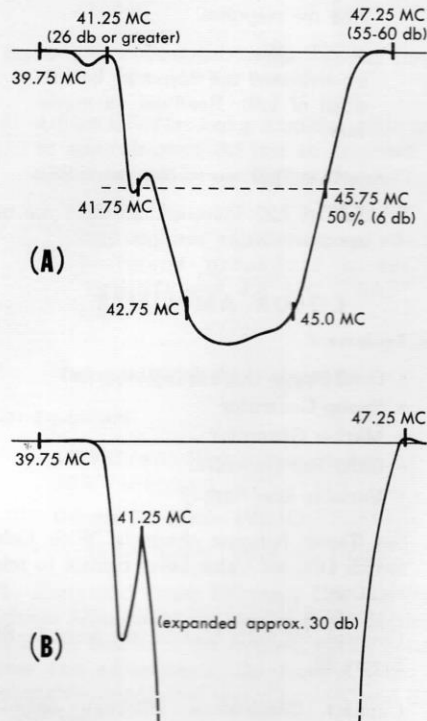

Figure 14—Overall Response Curve, Taken at Test Point C2.
- (c) Set Marker Generator accordingly and adjust L5, L6 and L4, the 47.25 mc, 41.25 mc (heavy wire) and 39.75 mc trap (on apron of chassis) respectively for minimum response. See Figure 14.